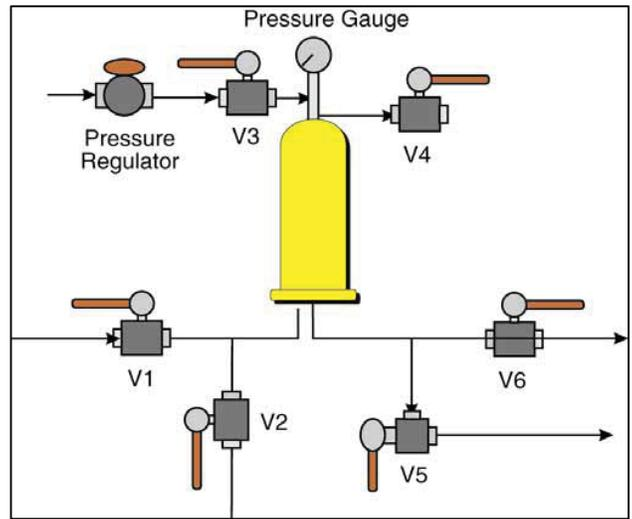

Figure 5 - Pressure Hold Test (Manual Testing)
### Procedure #1. Pressure Hold Test (Manual Testing - Figure 5)
- A. Configure the system as shown in Figure 5. Connect a pressure regulator to a sterile compressed air source (Do Not Use CO2) capable of delivering a minimum of 0.7 bar (10 psig) more than the required test pressure. PHT test pressure for LifeASSURE PDA series filter is 2.8 bar (40 psig).